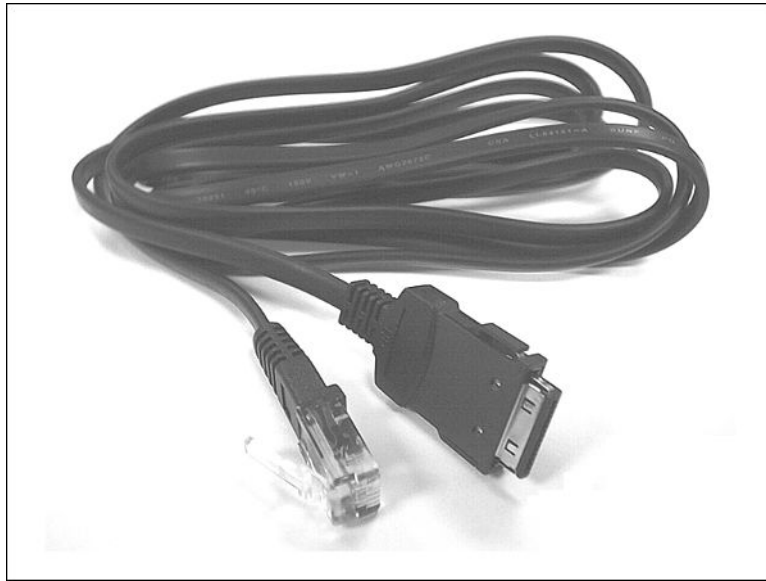

Figure 12.1 An example of a dongle used to connect a PC Card modem to a phone jack. (Photo from Computer Heaven, Inc., www.computerheaven.com.)
- **The dongle or pigtail**—This is a relatively short piece of cable with different connectors at each end. One of these connectors is flat enough to attach to the PC Card modem. The other is a RJ-11 phone connector. Early dongles were only a few inches long and had an appearance that gave rise to the nickname *pigtail*. These cables had a female phone connector and were designed to be used with a standard phone cable. More recent dongles have a much longer cable and terminate in a male connector that can be plugged directly into a phone jack without the need for an additional cable (see Figure 12.1). Dongles were very popular with modem manufacturers, especially because users would continually lose them and pay sometimes as much as \$99 to replace them. Nowadays, dongles can be purchased for as little as \$19 from companies such as Computer Heaven.